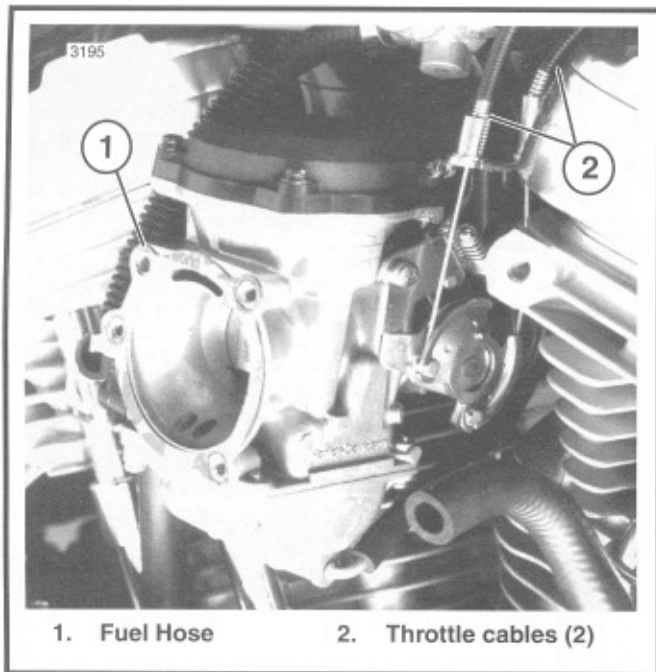

Figure 4-6. Carburetor Hoses and Cable Connections
3. See Figure 4-6. Disconnect fuel hose (1) and throttle cables (2) from carburetor.
11. See Figure 4-6. Install throttle cables (2) and fuel hose (1) onto carburetor.